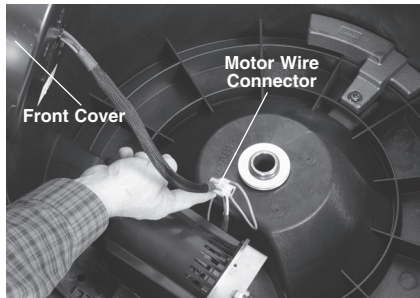

Figure 1 – Drain Cleaner Housing Opened
2. Use a 4 mm hex wrench to loosen the front cover fasteners (they are retained to the cover and frame). Lift the cover and unplug the motor wire connector (Figure 1). Feed cable through bushing into machine. Remove the front cover.